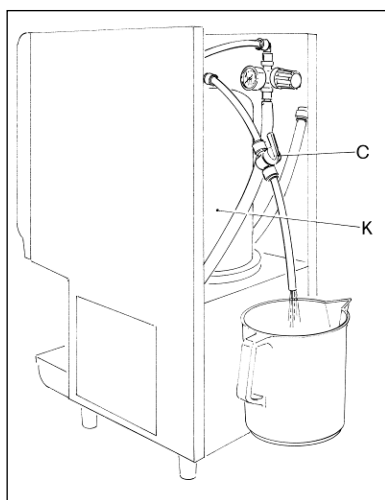
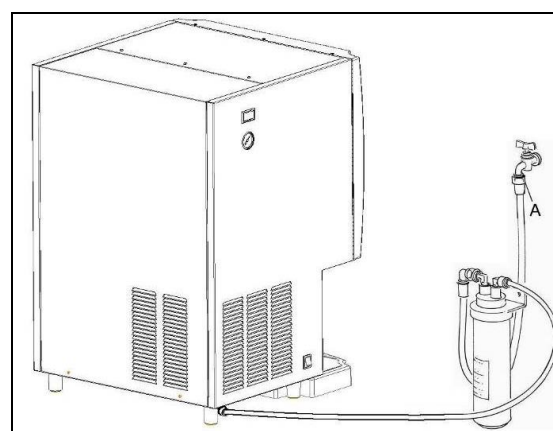

Fig. 14
Fig. 17
**DO NOT PLUG THE UNIT BEFORE THE FILLING OF THE RESERVOIR K (Fig 14)**
- Open the tap C (Fig. 14) and join the fitting A to the water connection (Fig. 17).
- Connect the other threaded ring nut A (Fig.17) to the water supply by screwing it onto the water tap which is also fitted with a thread (Fig. 18).
- When the water begins to flow out of the tube on which the tap C is positioned, wait a couple of minutes and then close the tap itself (Fig. 14).